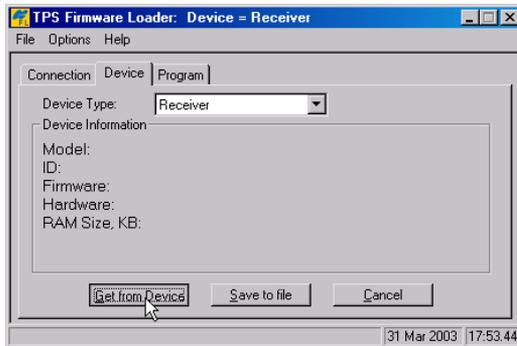

Figure 4-18. Set Device Type
- Click **Get from Device** for device information (Figure 4-18).